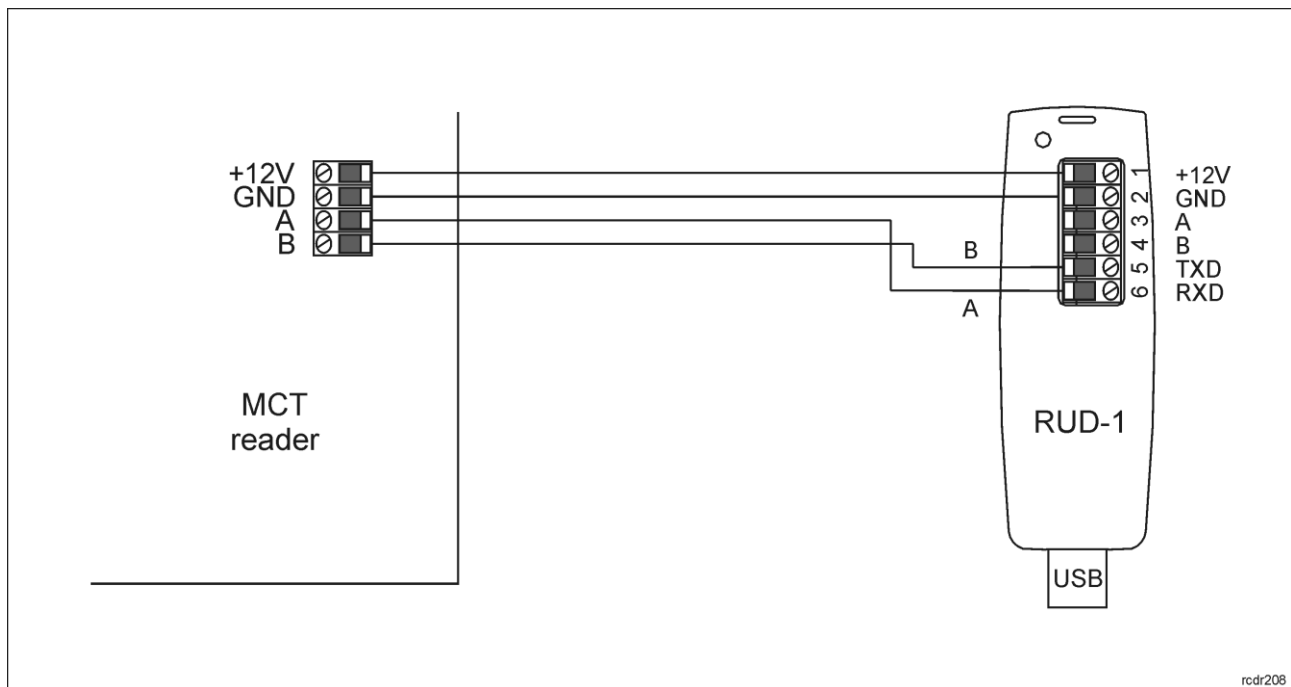

Fig. 8 Connection of MCT terminal to RUD-1 interface (firmware update)
The update requires connection of device to computer with RUD-1 interface (fig. 8) and starting RogerVDM software. The latest firmware file is available at [www.roger.pl](http://www.roger.pl).
1. Connect the device to RUD-1 interface (fig. 8) and connect the RUD-1 to computer's USB port.